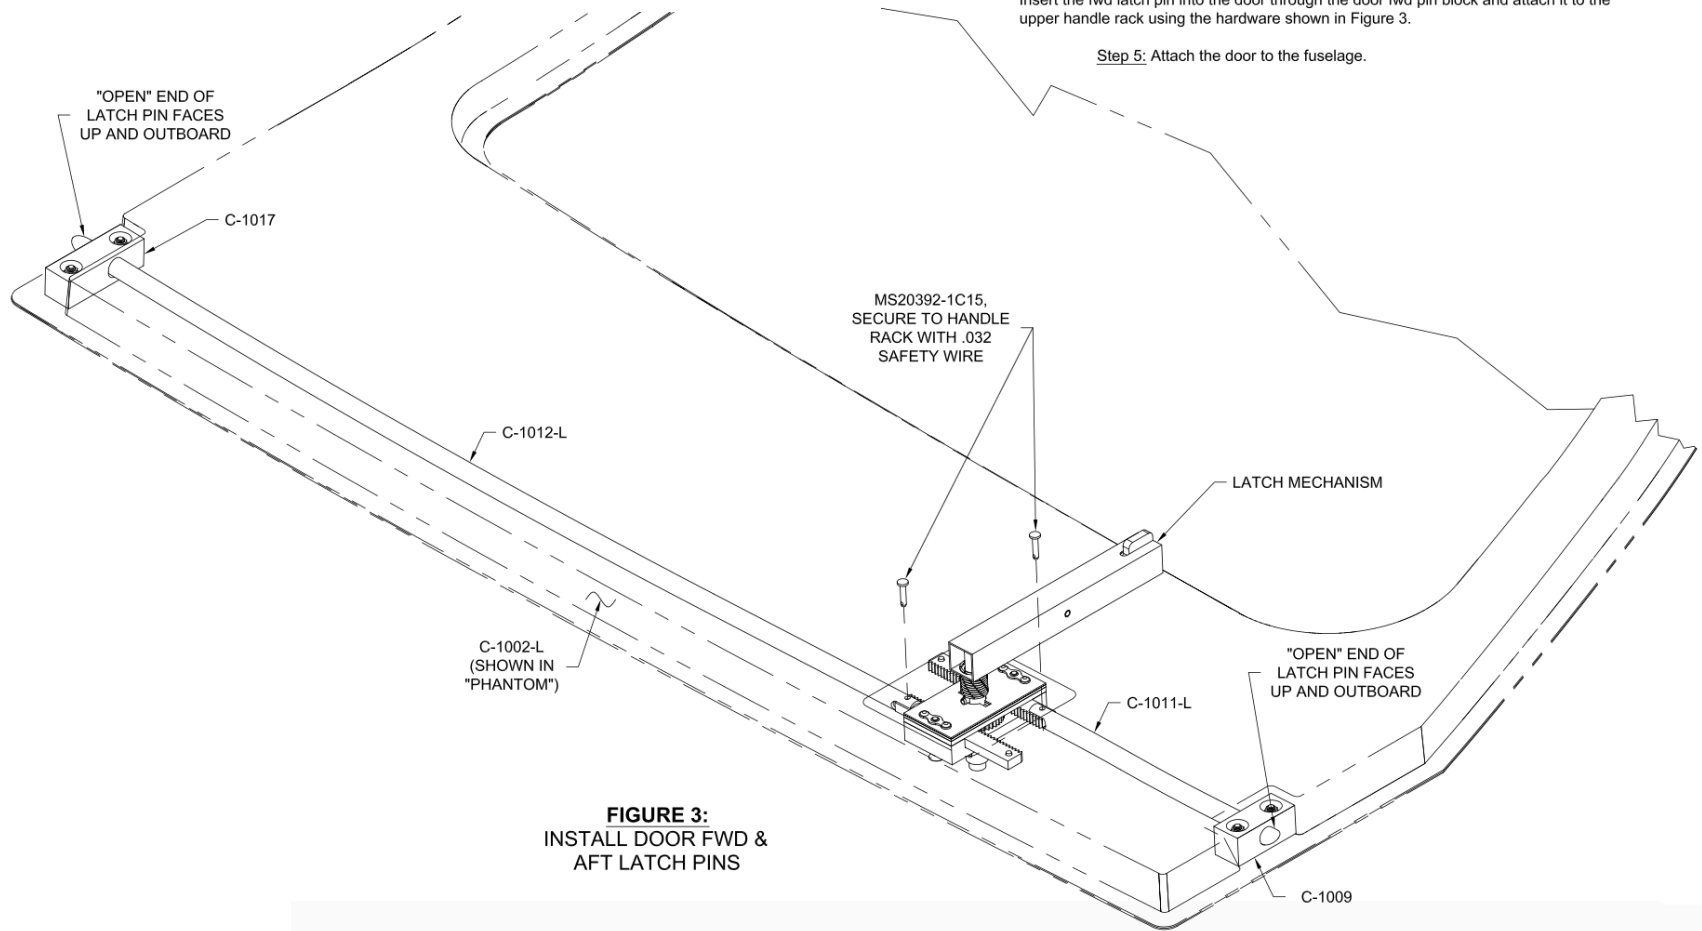

FIGURE 3:
Step 3: Establish proper orientation of the C-1012 Aft Latch Pins. See Figure 3 (next page).
Insert the aft latch pin into the door through the door aft pin block and attach it to the lower handle rack using the hardware shown in Figure 3 (next page).
Step 3: Establish proper orientation of the C-1012-L Aft Latch Pin. See Figure 3.
Insert the aft latch pin into the door through the door aft pin block and attach it to the lower handle rack using the hardware shown in Figure 3.
Step 4: Establish proper orientation of the C-1011-L Fwd Latch Pin. See Figure 3.
Insert the fwd latch pin into the door through the door fwd pin block and attach it to the upper handle rack using the hardware shown in Figure 3.
Establish proper orientation of the C-1011 Fwd Latch Pins. See Figure 3 (previous page).